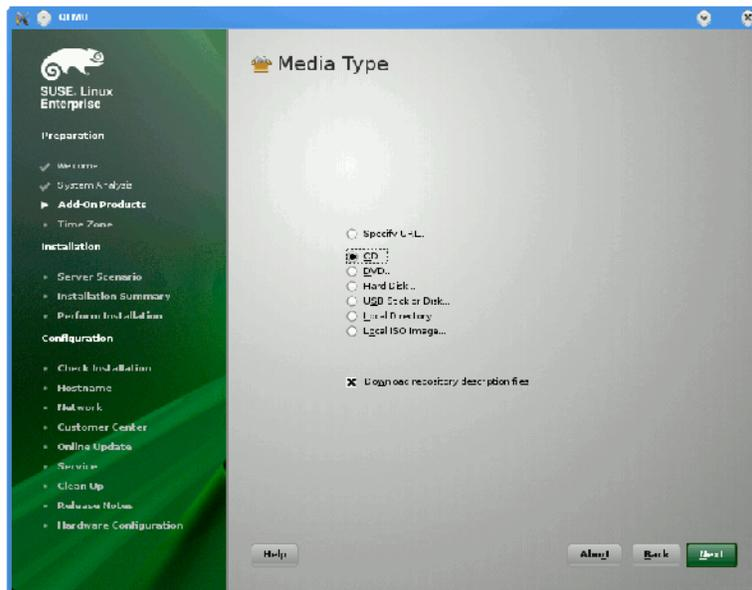

Figure 1-14 SLES11 Media Type Screen
3. From the **Media Type** screen, shown in Figure 1-14 on page 22, click the button to the left of **CD**.